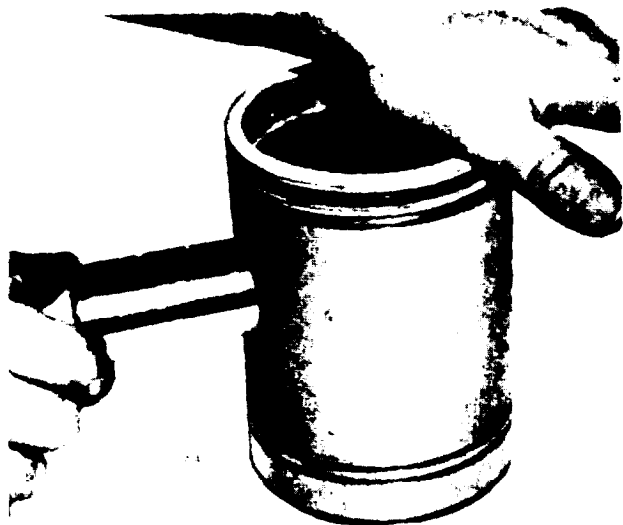

Figure 11B-116. Installing Piston Pin
4. Lubricate the piston pin with clean engine oil and install it as shown Figure 11B-116 on page 11B-74.